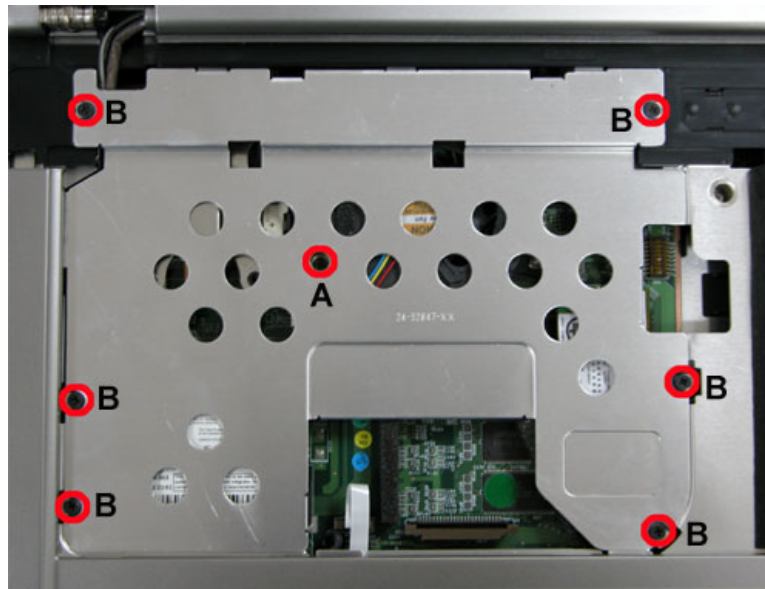

Fig. 13 Heat Plate
1. Release all screws on heat plate as shown in Fig. 13